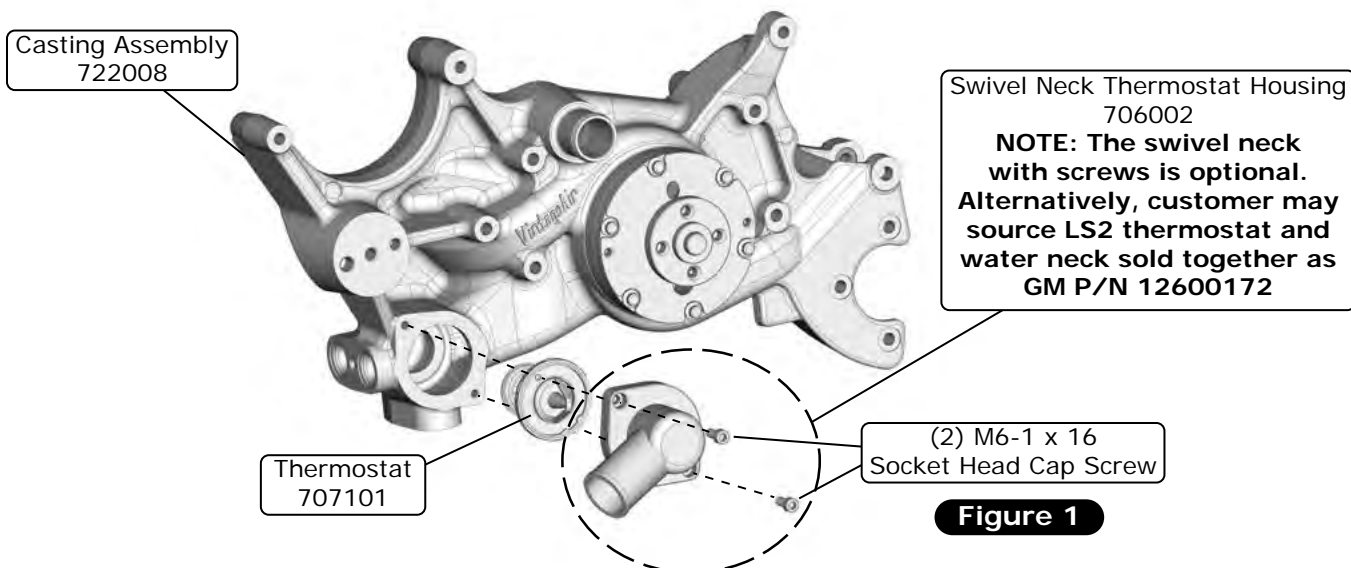

Figure 1
1. Several installation steps are most easily performed on the bench, beginning with the thermostat. Carefully cut clocking tab from circumference of thermostat seal. Align thermostat in casting bore as shown in Figure 1, below. Install thermostat housing to casting using (2) M6-1 x 16 socket head cap screws provided with housing, torqued to 5 lb-ft.